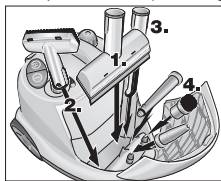

Figure 10: Accessory compartment
- Put the manual nozzle, the window nozzle, the detail nozzle, and small parts in the accessory compartment (see Figure 10).